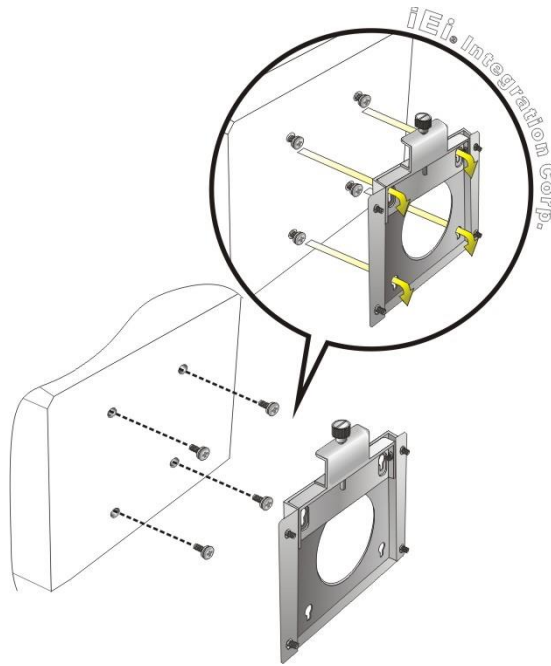

Figure 3-8: Chassis Support Screws
Step 6: Insert the four monitor mounting screws provided in the wall mount kit into the four screw holes on the rear panel of the panel PC and tighten until the screw shank is secured against the rear panel (**Figure 3-8**).
Step 8: Carefully insert the screws through the holes and gently pull the monitor downwards until the monitor rests securely in the slotted holes (**Figure 3-8**). Ensure that all four of the mounting screws fit snugly into their respective slotted holes. Always keep the AFL4-XXX-ADLP Panel PC in landscape orientation when mounting on the wall.